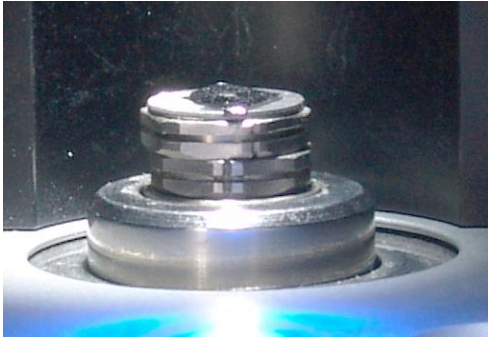
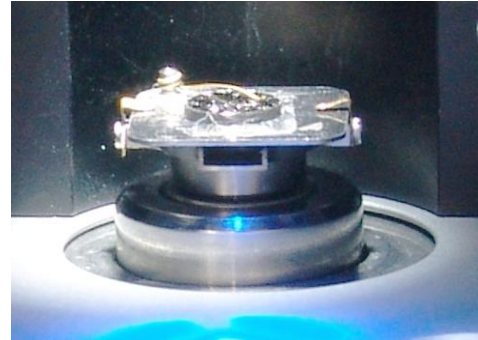

Fig. 6-6
Fig. 6-7
2. Place the holder with the sample fixed on it on the sample stage of the scanner (Fig. 6-6, Fig. 6-7). If a substrate with a spring contact is used, check that the contact is at the side distant from you, as shown in Fig. 6-7.